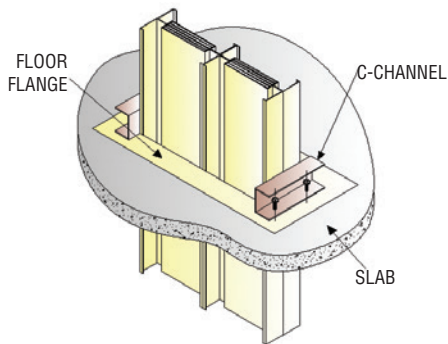

Figure 1
- 7.2 Drill the C-Channel with opening hole of $\phi 14\text{mm}$ to accommodate the fixed support rod. Locate the hole in line with the centerline of the side of the busduct housing. The distance in between these two holes from center to center is 65mm [E]. (Figure 1)
Then, drill the busduct housing with opening hole of $\phi 12\text{mm}$ with the height around 190mm [F] from the top of the C-Channel for installing the L-Channel Bracket by using M10 bolts supplied. The distance in between these two holes from center to center is 60mm [G]. (Figure 1)